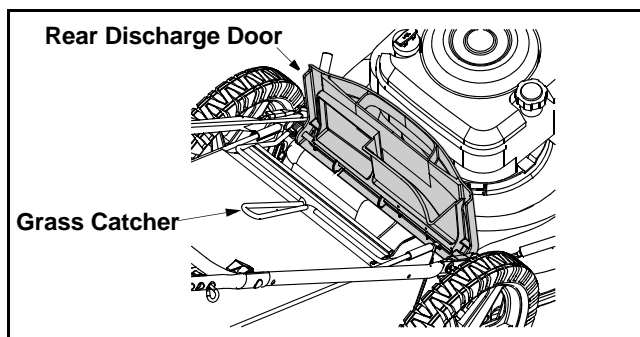

Figure 9
- Place the hooks, found on both sides of the grass catcher frame, over the chute door pivot rod at the rear of the mower. Release the rear discharge door. See Figure 9.